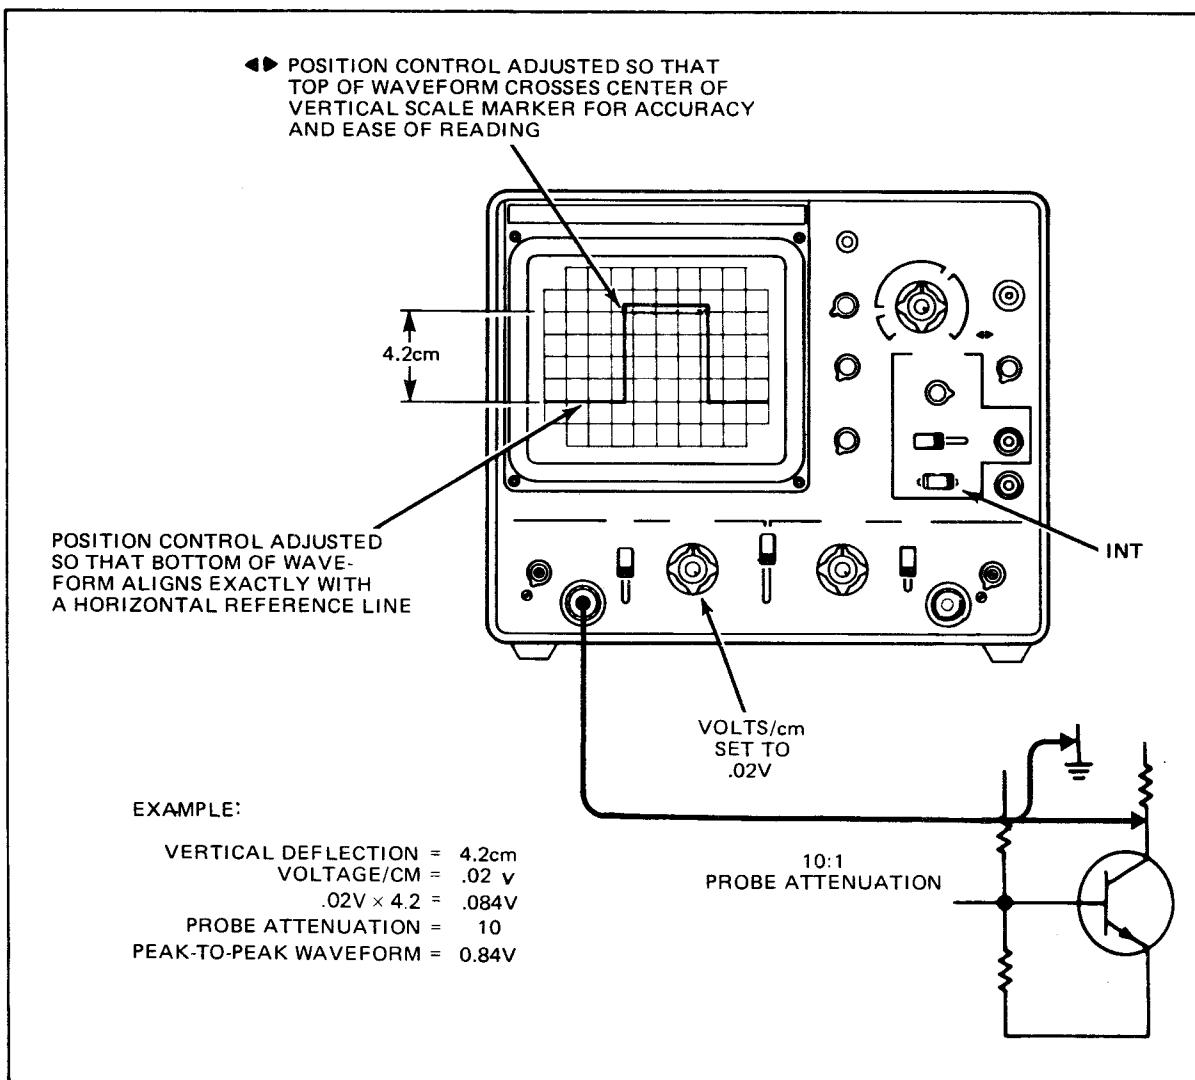

Fig. 4. Typical voltage measurement.
CALIBRATED VOLTAGE MEASUREMENT (See Fig. 4)
4. Calculate the voltage reading as follows: Multiply the vertical deflection (in cm) by the VOLTS/CM control 17 setting (see example in Fig. 4) Don't forget that the voltage reading displayed on the oscilloscope is only 1/10th the actual voltage being measured when the probe is set for 10:1 attenuation. The actual voltage is displayed when the probe is set for DIRect measurement.